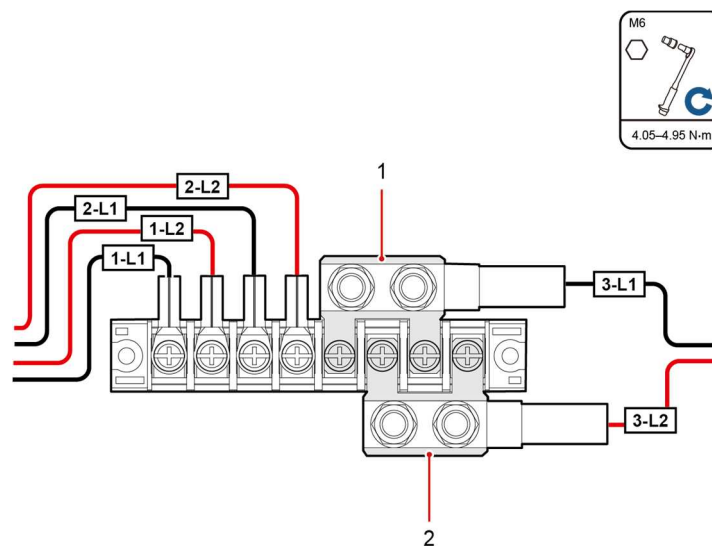

Figure 29 – Installing Power Cables for three AC dual-live Wire Inputs
- Step 3 Secure the AC input OT terminals to the corresponding short-circuit copper bars and AC input wiring terminals, as shown in Figure 29.